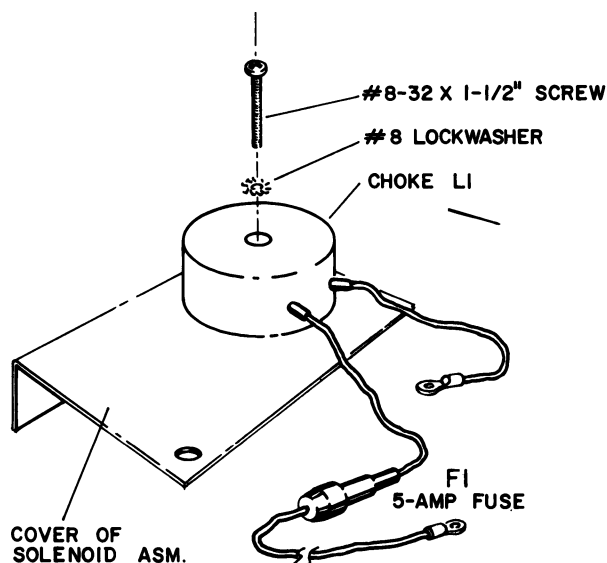

Fig. 2 - Installation of C1
1. Mount capacitor C1 on the vehicle near the solenoid assembly, as shown in Figure 2. For negative-ground vehicles, connect the yellow lead to terminal #4 on the solenoid assembly and the red lead to terminal #8.